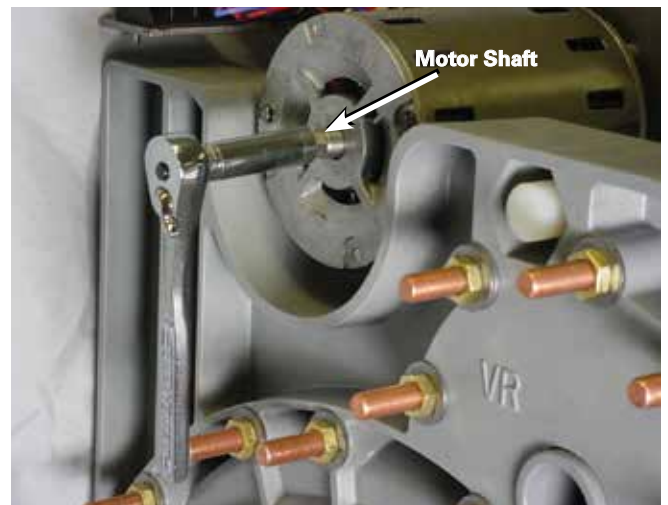

Figure 88. Motor and reversing movable contact rotation.
2. If the reversing movable contacts are setting on the VL reversing stationary contact, place a 3/8" socket onto the rear shaft of the motor. See Figure 88. Using a ratchet, rotate the motor shaft counter-clockwise to move the reversing movable contacts off of the reversing stationary contact. It may be necessary to rotate the tap changer through several positions before the movable reversing contact will begin to move.